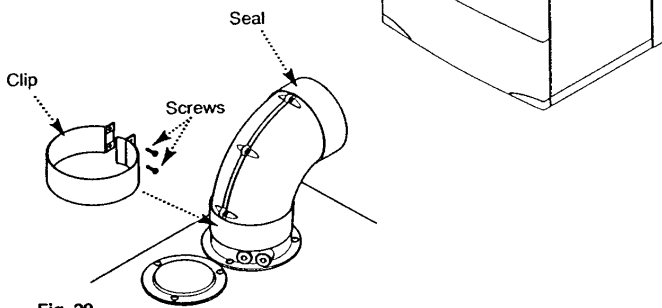

Fig. 29
14. Remove the screws from one of the clips provided. Prise the clip apart and fit it over the seal. Set the elbow to the required angle (Fig. 29).